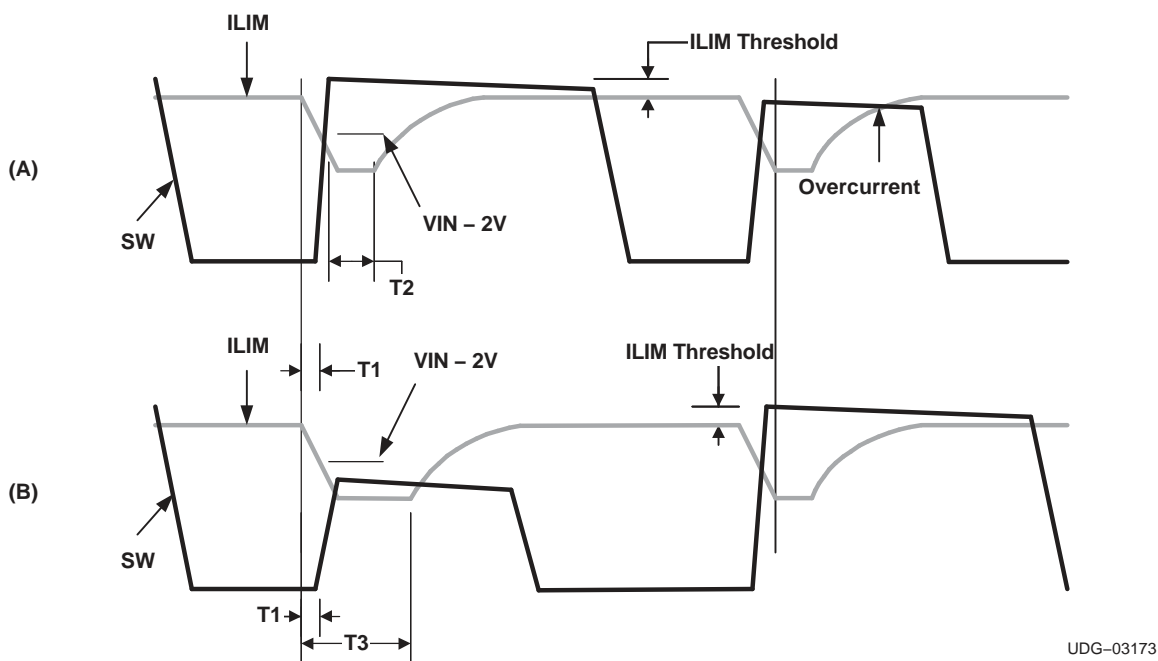

Figure 26. Switching and Current-Limit Waveforms and Timing Relationship
The TPS40077 uses a two-tier approach for short-circuit protection. The first tier is a pulse-by-pulse protection scheme. Short-circuit protection is implemented on the high-side MOSFET by sensing the voltage drop across the MOSFET when its gate is driven high. The MOSFET voltage is compared to the voltage dropped across a resistor (R_{ILIM}) connected from V_{DD} to the ILIM pin when driven by a constant-current sink. If the voltage drop across the MOSFET exceeds the voltage drop across the ILIM resistor, the switching pulse is immediately terminated. The MOSFET remains off until the next switching cycle is initiated. This is illustrated in Figure 26.
In addition, just prior to the high-side MOSFET turning on, the ILIM pin is pulled down to approximately half of V_{VDD} . The ILIM pin is allowed to return to its nominal value after one of two events occurs. If the SW node rises to within approximately 2 V of V_{VDD} , the device allows ILIM to go back to its nominal value. This is illustrated in Figure 26(A). T1 is the delay time from the internal PWM signal being asserted and the rise of SW. This includes a driver delay of 50 ns, typical. T2 is the reaction time of the sensing circuit that allows ILIM to start to return to its nominal value, typically 20 ns. The second event that can cause ILIM to return to its nominal value is for an internal timeout to expire. This is illustrated in Figure 26(B) as T3. Here SW never rises to $V_{VDD} - 2$ V, for whatever reason, and the internal timer times out, releasing the ILIM pin.